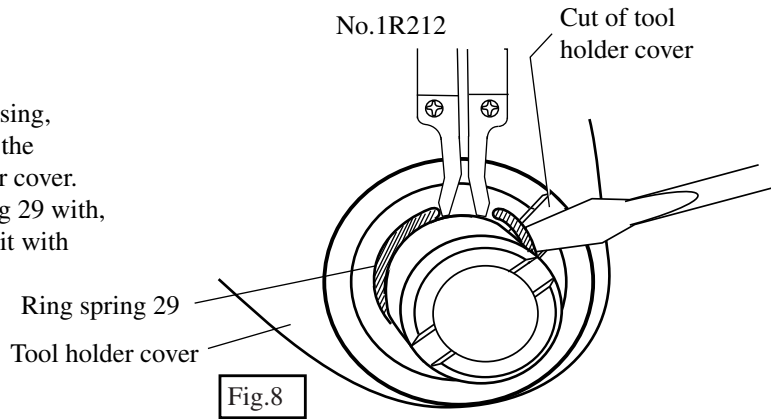

Fig.8
- (2) Pulling tool holder cover down in the direction of the motor housing, slide the cut of ring spring 29 in the direction of the cut of tool holder cover. And expand the cut of ring spring 29 with repairing tool No.1R212, lifting it with driver as illustrated in Fig.8.